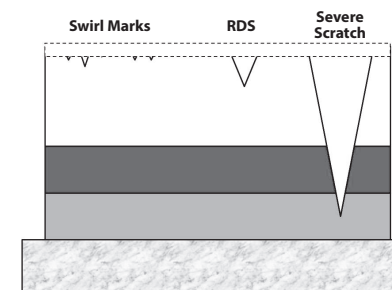
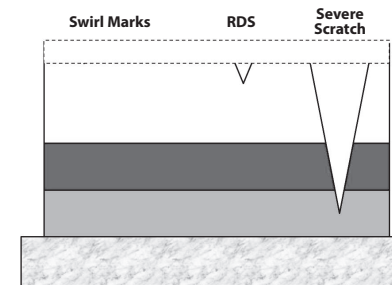
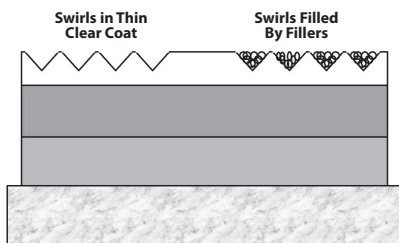
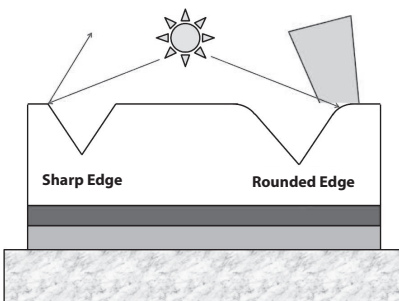

Fig. 11
Fig. 12
Fig. 13
Fig. 14
- In the case of very fine, shallow „scratches“, it is sufficient to use a polish without abrasives, whereby these shallow defects are filled in and polished over by the polishing substance so that they are not visible, see fig. 13.
- ➔ **Fine scratches „swirl marks“**, as shown in fig. 11, are fine, shallow scratches that that can be fully sanded out using a paste with abrasives, see fig. 12 or, if they are fine and shallow, they can be filled by the polish and polished over so that they are not visible and thus it may not be necessary to use a polish with abrasives in such a case, see fig. 13. However, this depends on the specific situation. In practice, this is shown in fig. 4.
➔ **Deep scratches** described as "RDS" in fig. 11 may be shallowed out using abrasive pastes - see fig. 12 and filled with pasted and polished over so that they are not visible, likewise as is the case with fine scratches "swirl marks", see fig. 13. In practice, this is shown in fig. 3
➔ **Deep scratches** that go below the varnish layer all the way to the base paint coat, i.e. "severe scratches" as shown in fig. 11 cannot be removed, however, it is possible to use abrasive paste and polishes to make them less evident. Using abrasive pastes will round out the edges that define the scratch and thus when light falls on such a rounded edge it is diffused, which makes the scratch less evident, see fig. 14.